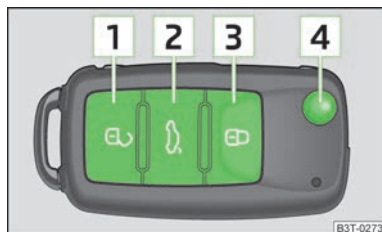

Fig. 12
- Press the button **1** » Fig. 12.
- Press the button **3** » Fig. 12.
- Press the button **3** » Fig. 12 twice within 2 seconds. Further information » page 29.
- Press the button **2** » Fig. 12. Further information » page 36.
- Press the button **2** » Fig. 12. Further information » page 37.
- Press the button **2** » Fig. 12. Further information » page 39.
- Press the button **4** » Fig. 12.
- Press the button **4** » Fig. 12 and fold in the key bit.
The turn signal lights flash twice as confirmation that the vehicle has been unlocked. If the vehicle is unlocked using button **1** » Fig. 12 and none of the doors or the boot lid are opened within the next 30 seconds, the vehicle is automatically locked again and the safe securing system or anti-theft alarm system is reactivated. This function is intended to prevent the car being unlocked unintentionally.